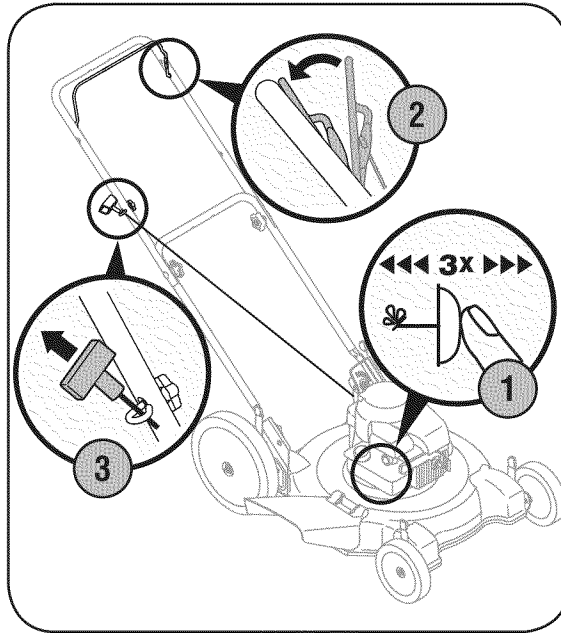

Figure 4-2
1. Push primer three times. Wait about two seconds between each push. See Figure 4-2. In temperature around 55° F or below, prime five times. Do not prime to restart a warm engine.
2. Standing behind the mower, squeeze the blade control against upper handle. See Figure 4-2.
3. Holding these two handles together firmly, grasp recoil starter handle and pull rope out with a rapid, continuous, full arm stroke. See Figure 4-2. Keeping a firm grip on the starter handle, let the rope rewind slowly. Repeat until engine cranks. Let the rope rewind each time slowly.